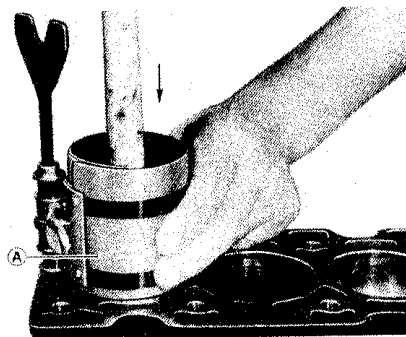

Fig. 3-111
Use of the piston ring compressor (A), Fig. 3-111, is mandatory in inserting pistons into cylinder block. Using this compressor (A), feed the piston and connecting rod combination into the bore from the upper side of cylinder block.